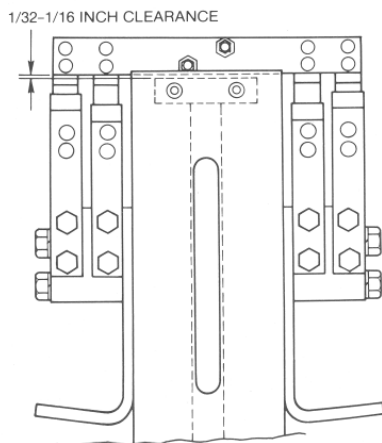

Figure 25.
H. To confirm proper contact engagement, crank the actuator mechanism to the fully closed position. Check clearance between the moving contact bar and the contact rod guide block, Figure 25. Clearance must be between 1/32 and 1/16 inch.